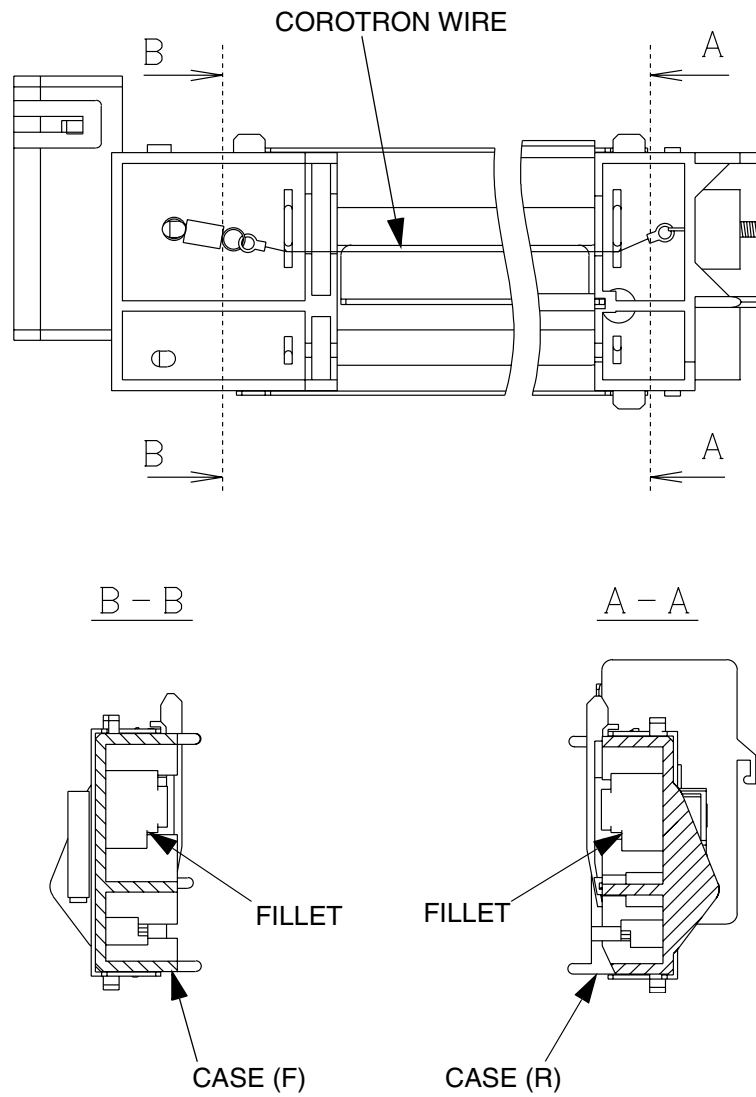

Figure 7-132. Assembling of the Separating Corona Wire
Note: Locate the Corotron Wire correctly in the appointed fillets of the case (F) and case (R). (Refer to Figure 7-132 on page 7-115)